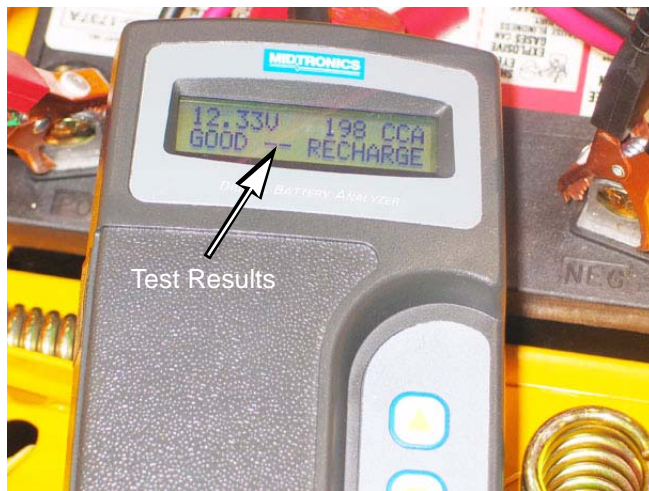

Figure 7.36
- 3d. Read the display of the tester. The tester's display will indicate if the battery passed or not. See Figure 7.36.